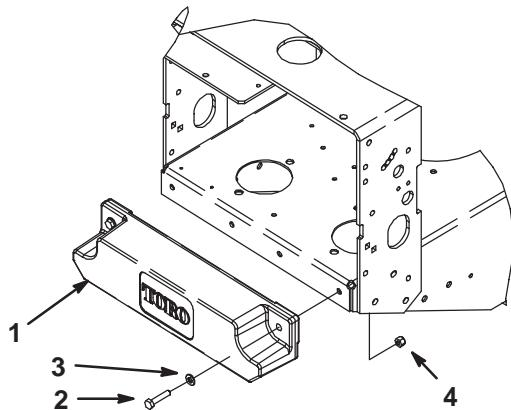

Figure 22
- The weight kit mounted in the **back** position is **optional** when a Tru-Trak® Sulky is not installed (Fig. 22).